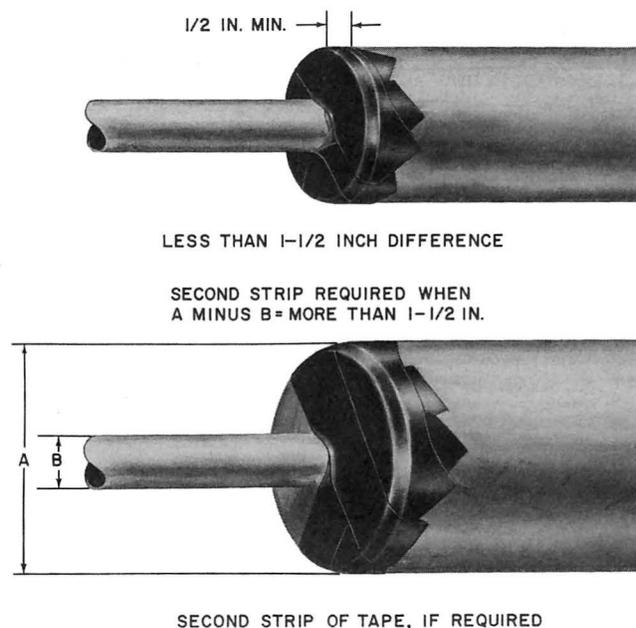

Fig. 11—Placement of Tape Over End Plate
**3.06** On a straight splice, apply strips of E Vinyl Tape across the end plate, covering the surface completely. If the sleeve is *beat-in* on the sheath, the tape should be applied in a similar manner. If the difference in diameter between sheath and sleeve is more than 1-1/2 inches (A minus B), use two widths of tape (Fig. 11).